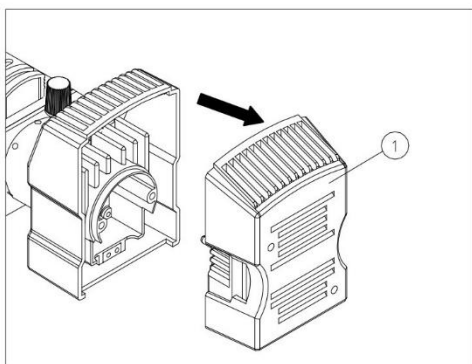

Fig. 14
1. Pull out the lamp-house ① as the picture show (Fig. 14)